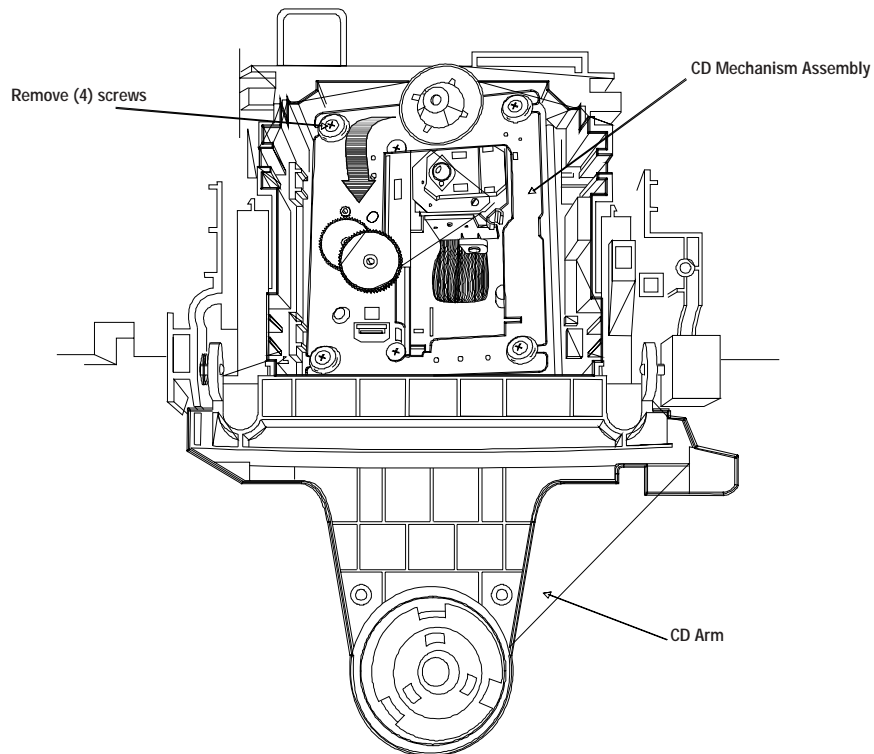

Fig. 4
6. Remove four (4) screws from CD Mechanism Assembly as shown in Figure 4.
7. Release one (1) wire from catch on bottom of CD Tray.